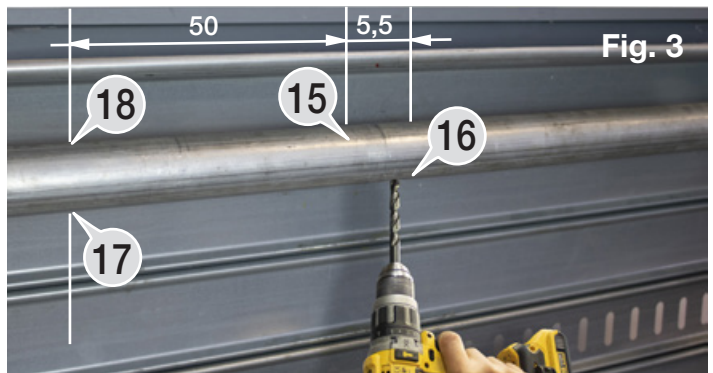

Fig. 3
- Fasten the M10 screw "36" using the spanner "7" and make sure it enters into the rolling shutter support shaft through the 10,5 mm hole "16" (drilled in fig. 3).